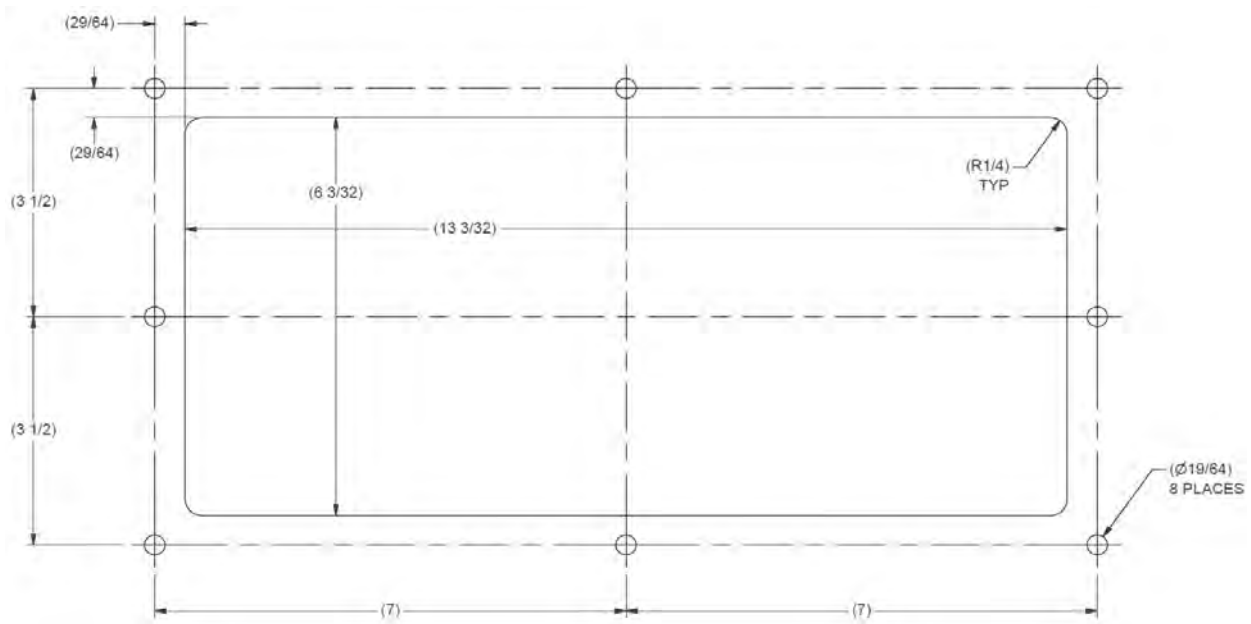

Figure 5-5 PMC Cutout Dimensions
1. Cut the panel according to the dimensions shown in Figure 5-5.